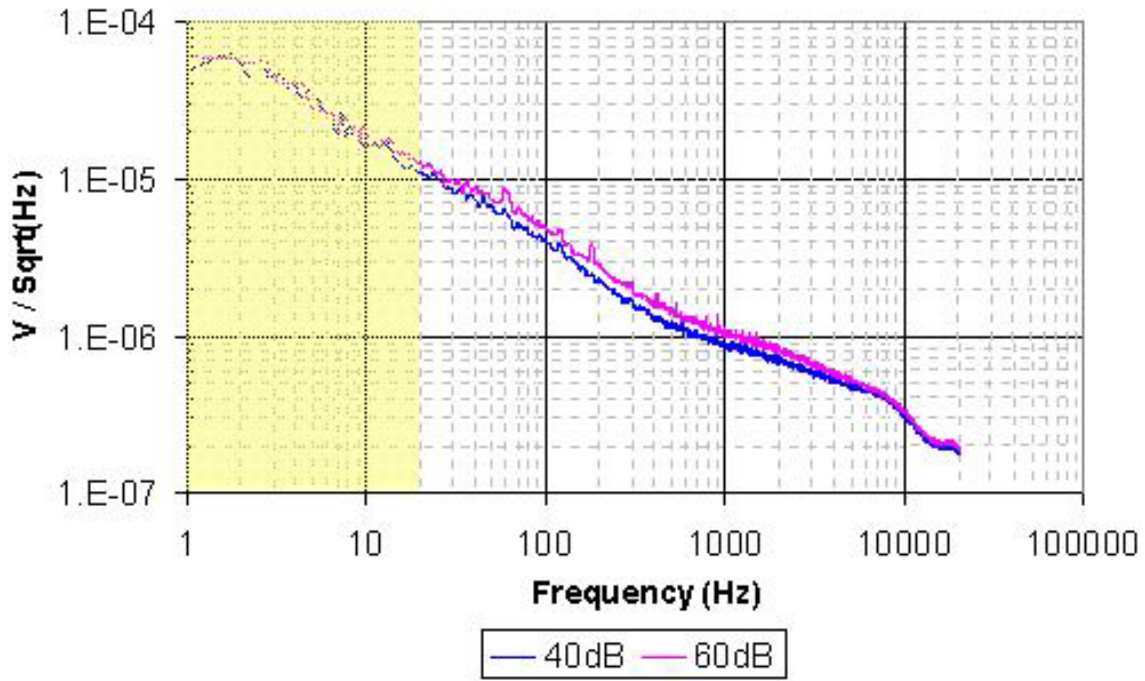

Figure 5 – Phono-ONE Noise Level from 1Hz – 20kHz
Figure 5 shows a typical un-weighted noise voltage spectral density for the ONE, when set for 40dB gain and 60dB at 1 kHz, as measured at the single ended output and with the input shorted. Both curves are for the right channel, with identical results for the left channel.
It will be observed from Figure 5 that, unlike most preamplifiers, the output noise level is virtually independent of gain. This is due to the fact that the majority of the gain is generated in the second amplifier stage and not the first stage, as is the usual case. However, if the +6dB gain setting is selected, the noise level will increase by 6dB because the additional 6dB of gain is implemented in the third amplifier stage and thus it amplifies noise generated in prior stages.
Using the 1/8” hex key, remove the four (4) button head screws in the positions marked “Balance Adjust” and “O/P Zero” in Figure 5. Insert the male XLR connector provided